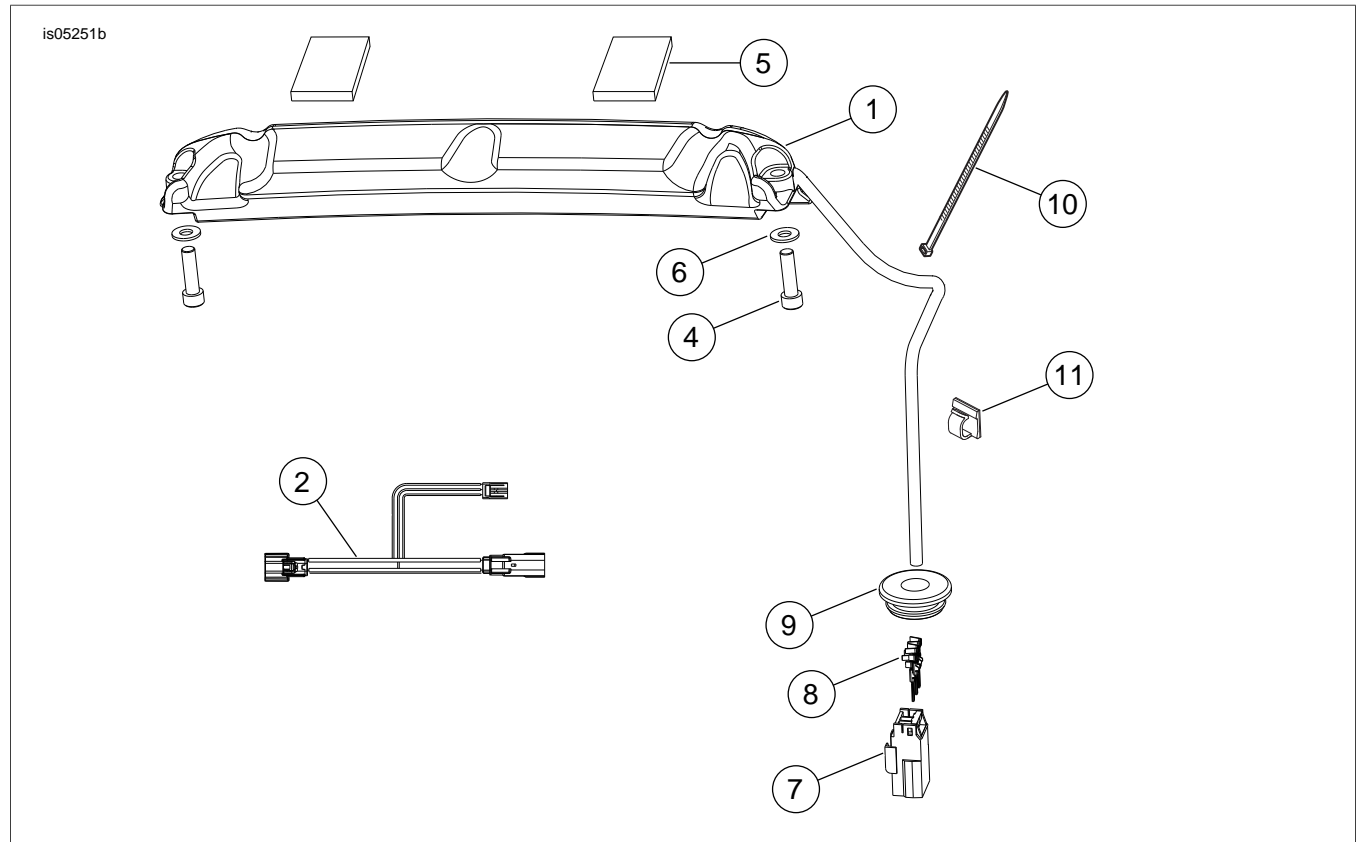

Figure 3. Service Parts: Tour-Pak Rack Light Kit
See Figure 3 and Table 1.
6. See Figure 3 and Table 1. Apply foam pads (5) to top surface of light.
7. Secure light (1) to rack with socket head screws (4) and washers (6).
16. See Figure 3. Refer to the Service Manual electrical appendix to install terminal pins (8) to rack light wires and install terminals to three pin housing (7) as follows: